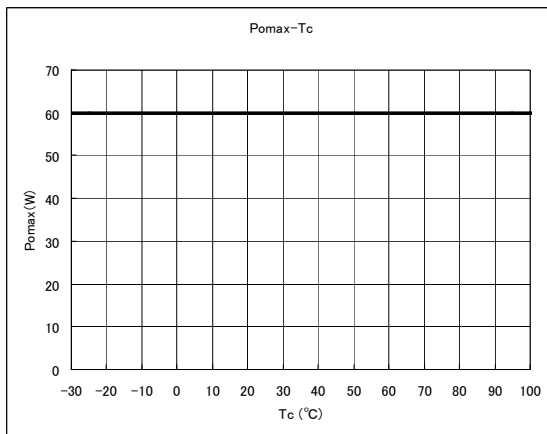
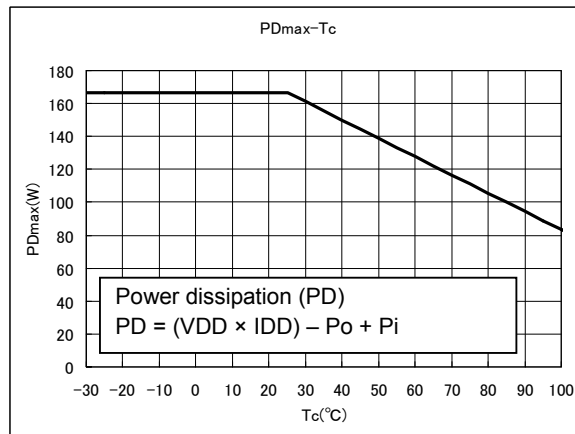

Figure 1 Pomax-Tc
Figure 2 PDmax-Tc
Note 2: The output power rating satisfies the range shown in Figures 1 and 2 according to the operating case temperature. Ensure that the device should be operated within the specified operating range. The figures below indicate the output power obtained 2 seconds after P_o is generated.
*When the device is used at Tc = 100°C, the output power rating is 60 W as shown in Figure 1. When the power dissipation at Tc = 100°C exceeds the rating shown in Figure 2, the output derating is required to limit the dissipation within the specified range.
Note 5: The output power is intended to follow the rating provided in Figure 1 in Note 2.